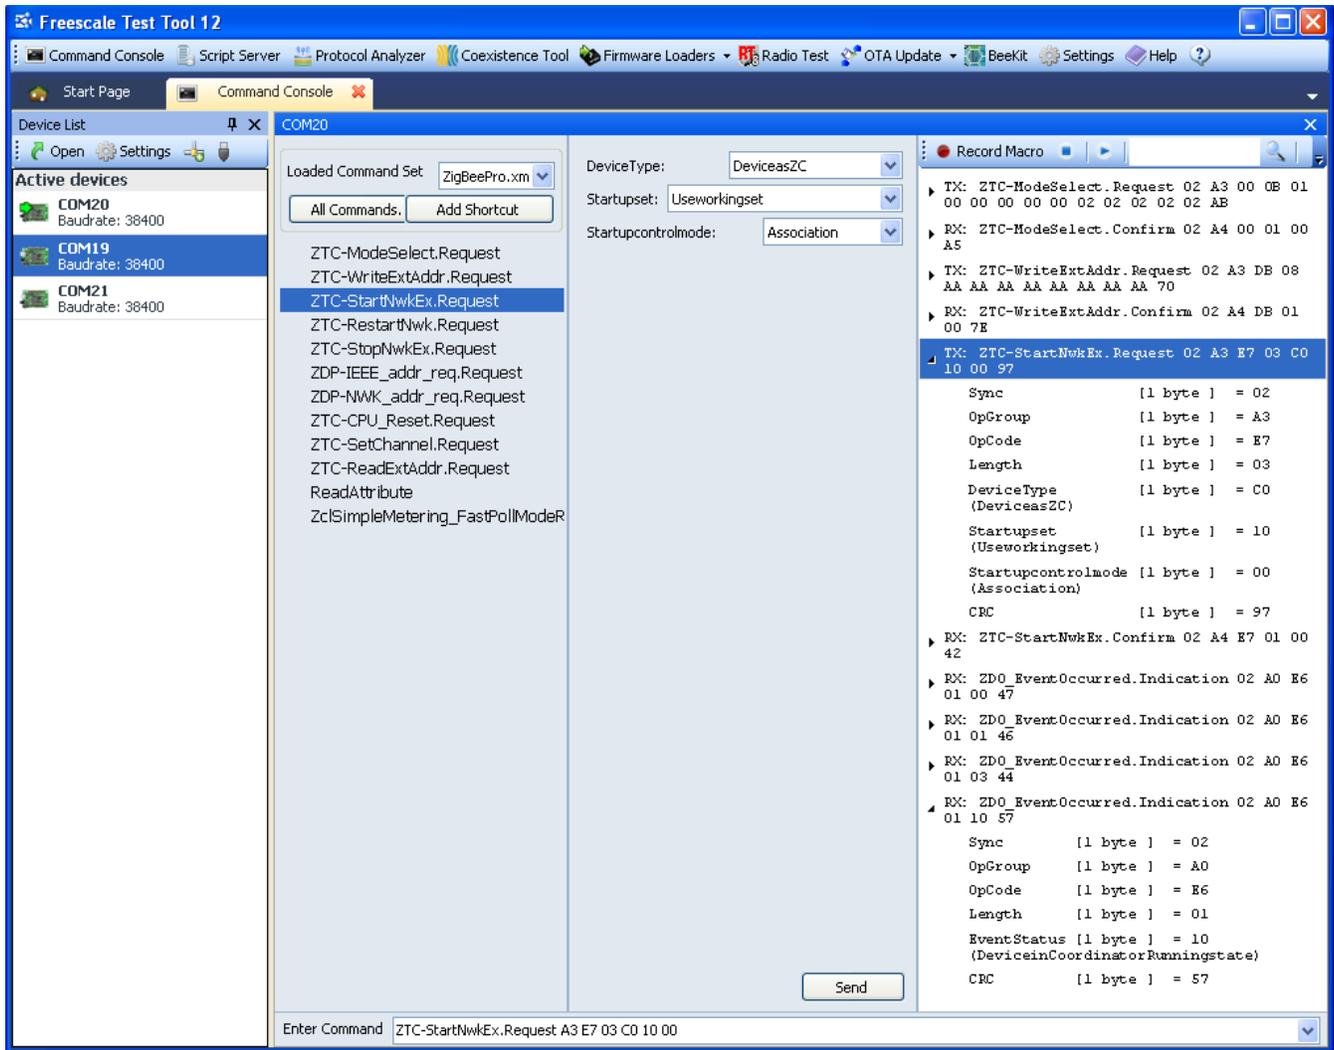

Figure 6-5. ZTC-StartNWK.Request Command (Forming the Network)
8. Send the ZTC-StartNWK.Request to form a network as shown in Figure 6-5.